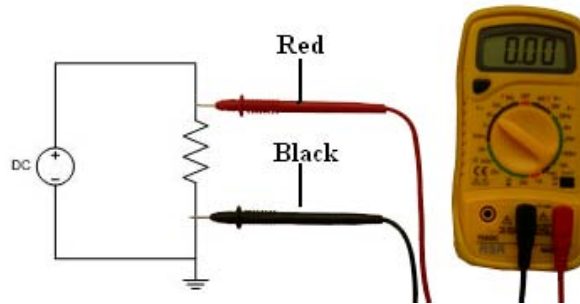

Figure 1.13: Measuring Voltage
1. To measure potential difference (voltage), the voltmeter is connected in parallel with the component. In Figure 1.13, the voltmeter is connected in parallel with a resistor.